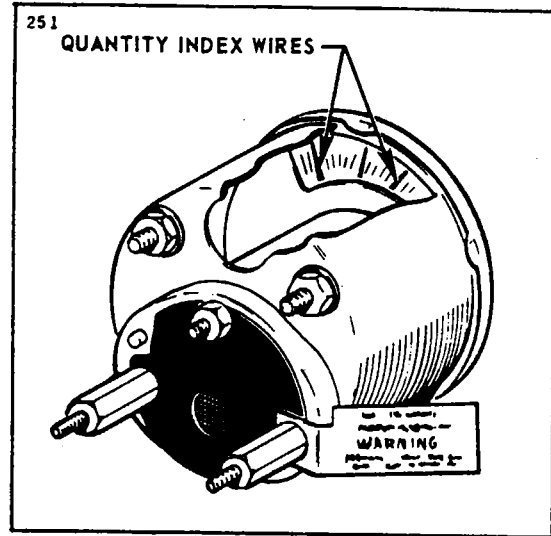

Figure 9-5. Fuel Gauge Adjustment Wires
c. Remove the light receptacle from the back of the fuel gauge. Note the quantity index wires in the gauge. (Refer to Figure 9-5.)